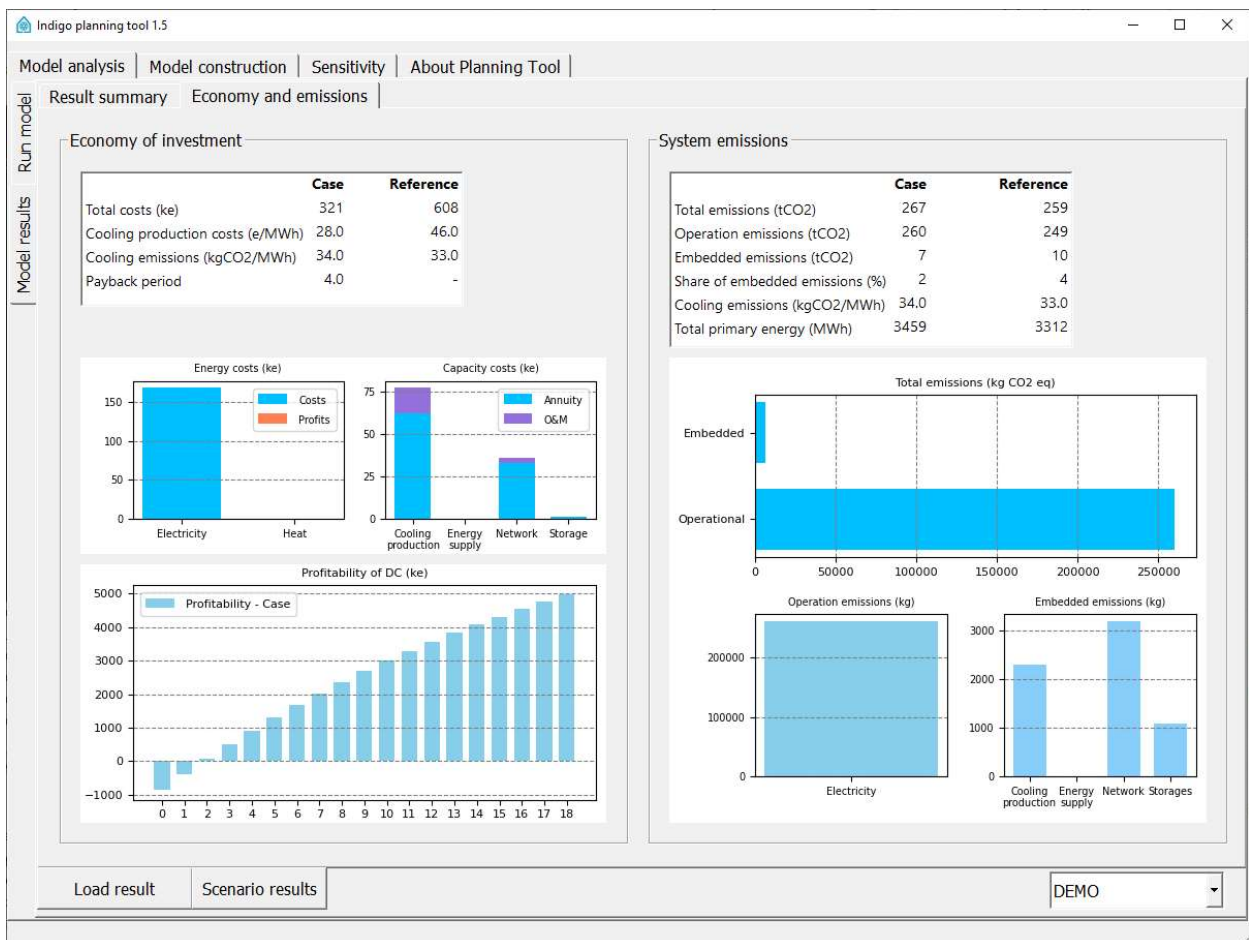

Figure 34. Economy and emission results.
**Economy and emissions** (see Figure 34) contains two sections: